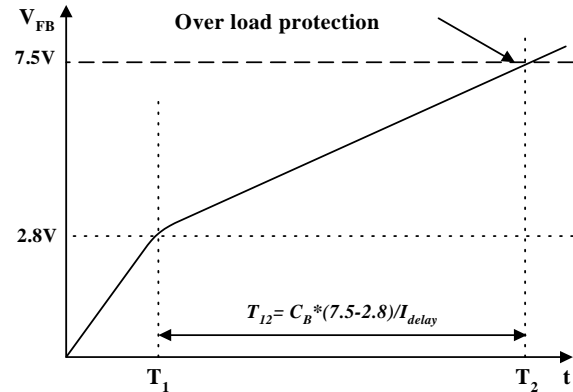

Figure 13. Over Load Protection
4.1 Over Load Protection (OLP): Overload is defined as the load current exceeding its normal level due to an unexpected abnormal event. In this situation, the protection circuit should trigger to protect the SMPS. However, even when the SMPS is in the normal operation, the over load protection circuit can be triggered during the load transition. To avoid this undesired operation, the over load protection circuit is designed to trigger after a specified time to determine whether it is a transient situation or an overload situation. Because of the pulse-by-pulse current limit capability, the maximum peak current through the SenseFET is limited, and therefore the maximum input power is restricted with a given input voltage. If the output consumes more than this maximum power, the output voltage (V_o) decreases below the set voltage. This reduces the current through the opto-coupler LED, which also reduces the opto-coupler transistor current, thus increasing the feedback voltage (V_{fb}). If V_{fb} exceeds 2.8V, D1 is blocked, and the 5uA current source starts to charge C_B slowly up to V_{cc} . In this condition, V_{fb} continues increasing until it reaches 7.5V, then the switching operation is terminated as shown in Figure 13. The delay time for shutdown is the time required to charge C_B from 2.8V to 7.5V with 5uA. In general, a 20 ~ 50 ms delay time is typical for most applications. OLP is implemented in auto restart mode.